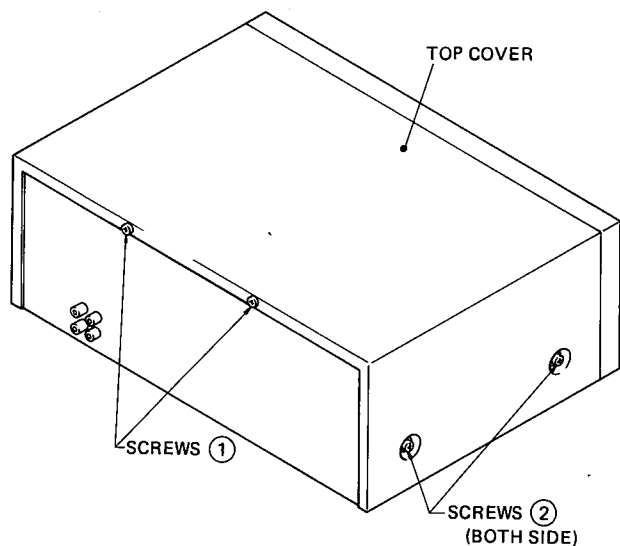

Fig. 1
- 1) Remove the 2 screws (1) on the rear of the unit and the screws on each side (2) (2 screws each) as shown in Fig. 1.